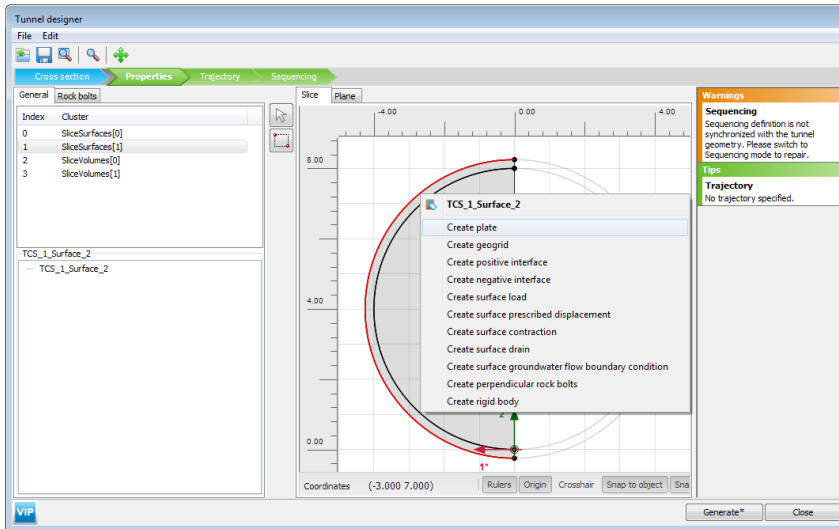

Figure 6.6 The *Properties* tabsheet of the *Tunnel designer* for the creation of a *Plate*
- In the *Slice* tabsheet, right-click the outer surface and select *Create plate* from the appearing menu (Figure 6.6).